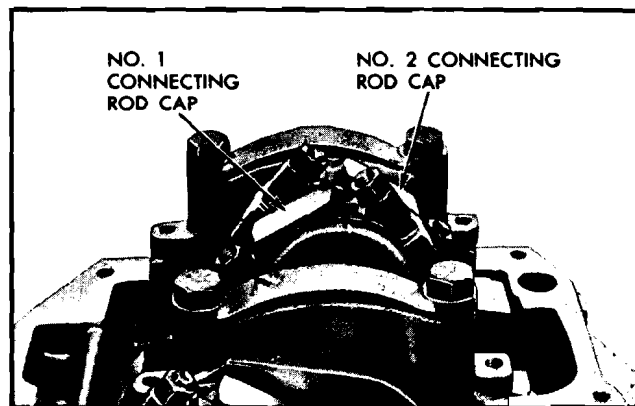

Fig. 6-112 Crankshaft Positioned For Removal of No 1 and No. 2 Connecting Rod Caps
3. Rotate crankshaft so crank pin carrying assembly to be replaced projects straight downward (Fig. 6-112).